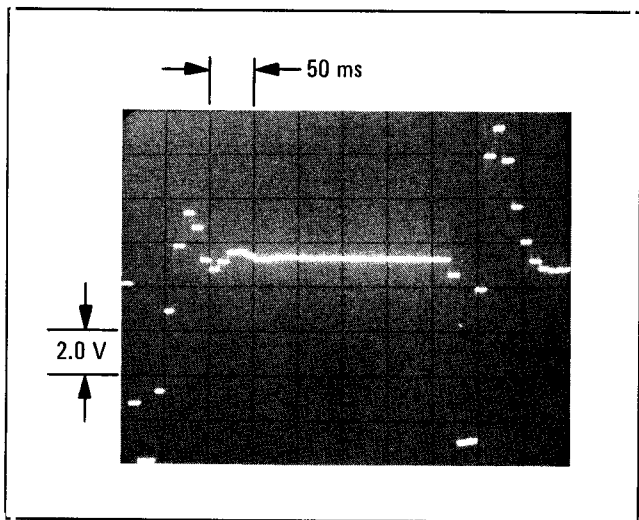

Figure 8. Display of Signal at U6B-Pin 6 (with dc coupling; external triggering from J2-Pin 7)
3. Increment the frequency from 500 MHz in 10 MHz steps. Verify that the waveforms of Figures 8 and 9 are correct.